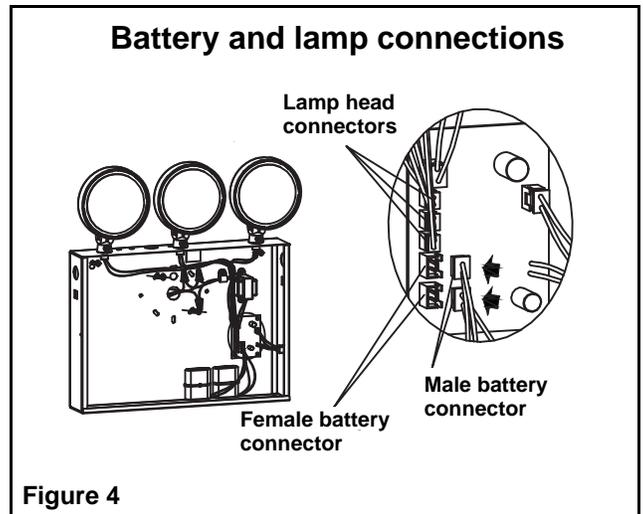

Figure 4
9. Connect battery connector to the PCBA (see figure 4).
4. For three lamp head installation: knocking out the middle square knockout on the top and install the third lamp head. Connect lamp wires to PCBA (see figure 4).
10. Connect battery connector to the PCBA (see figure 4).